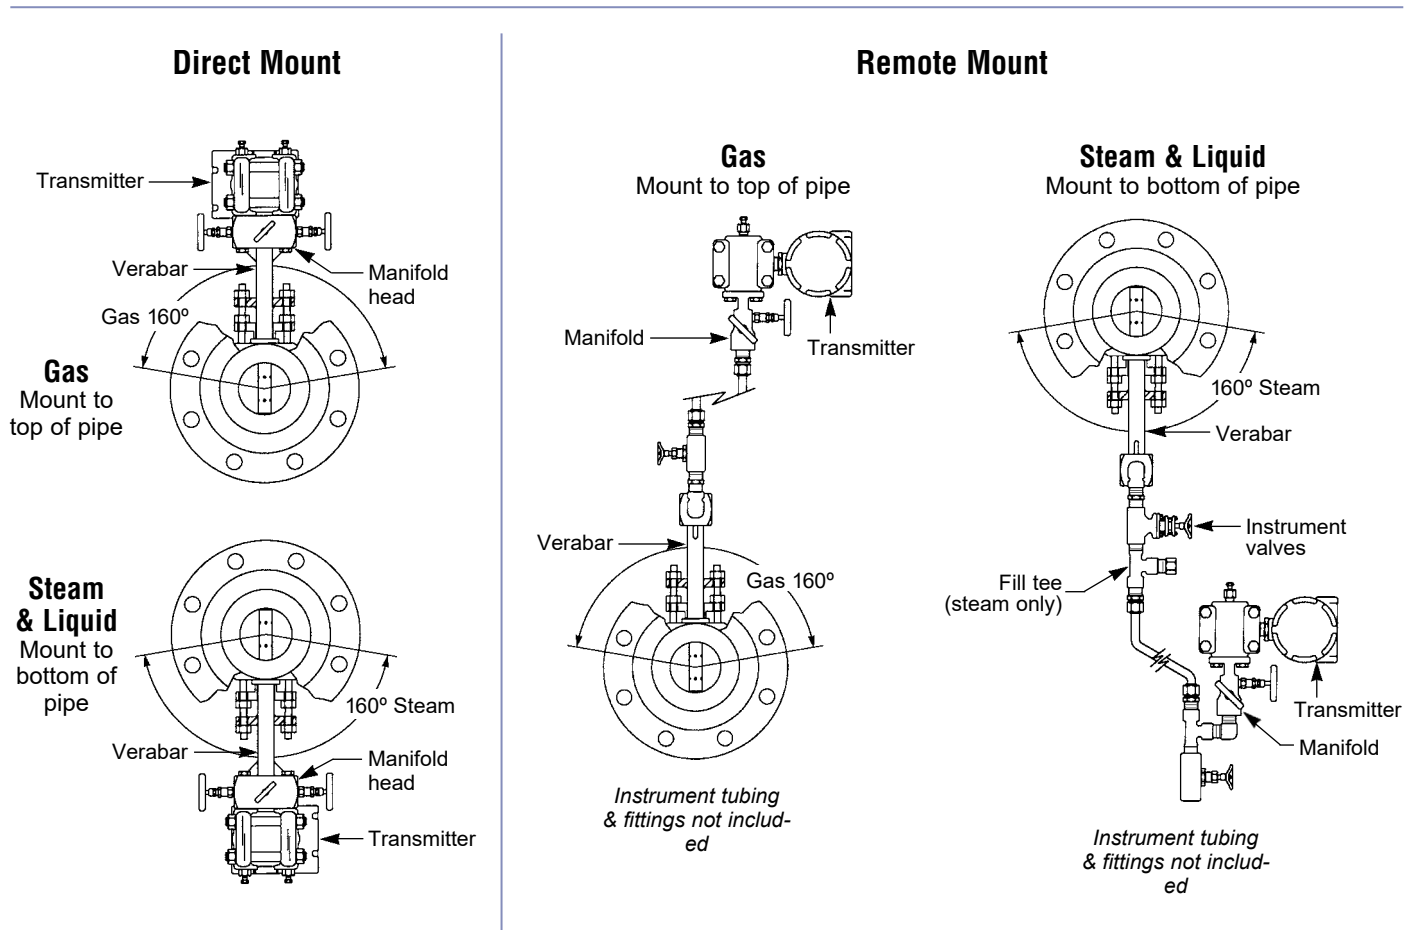

Figure 1. Accelabar® Installation Orientation
For air or gas applications, the Accelabar® must be mounted directly to the top of the pipe in the upper 160° position. For liquid and steam applications, the Accelabar® must be mounted directly to the bottom of the pipe in the lower 160° position (See Figure 1).
- Refer to Figure 1 for proper Accelabar® orientation for horizontal applications (orientation is not critical for vertical applications).